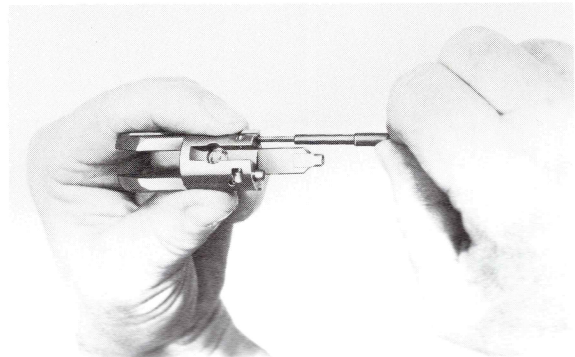

Fig. 13
- Undo the set screw (10) (Fig. 13) and remove the compression spring (9) together with the catch bolt (8).